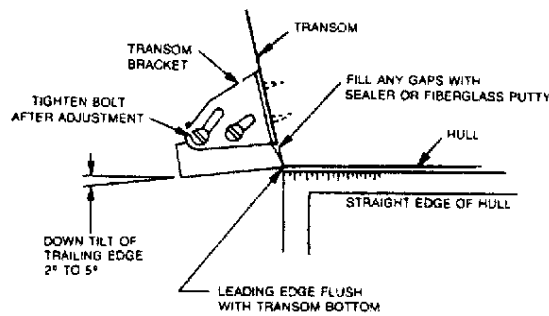

Figure 8
- Place the triducer along the transom and determine the exact bracket mounting position by referring to Figure 8: